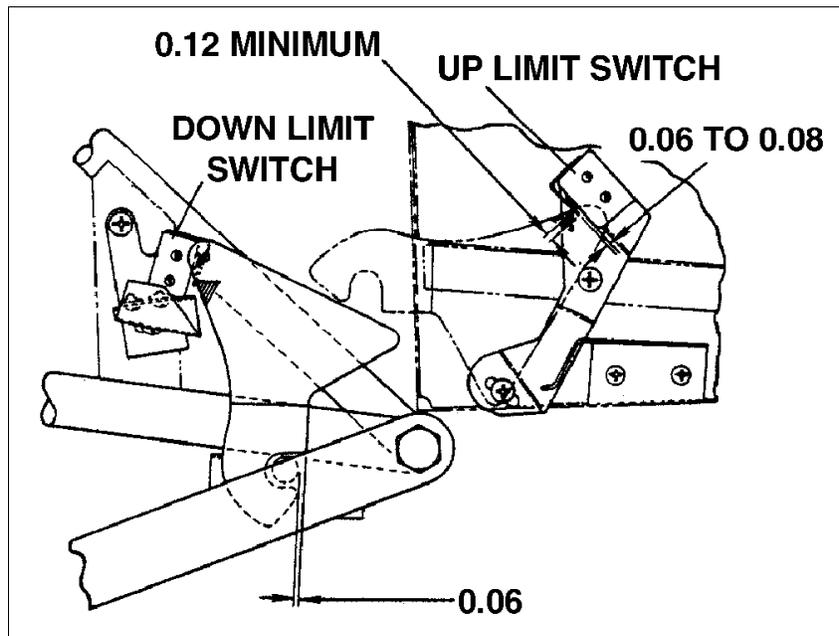

Figure 32-26. Adjustment of Nose Gear Limit Switches
The gear *up* limit switch is mounted on a bracket above the point where right side of upper drag link attaches to engine mount. (Refer to Figure 32-26.)
- f. Loosen lower attachment screw of switch bracket and rotate switch toward actuator tang until 0.06 to 0.08 inch measurement (noted in Figure 32-26) is obtained. Switch tang should be actuated a minimum of 0.12 inches in from lower end of tang.
- c. Down limit switch should actuate only after leading edge of down lock hook, when moving to locked position, has passed down lock roller by 0.06 of an inch. (Refer to Figure 32-26.) Position hook at this location in relation to roller by moving actuator piston manually toward up position. If necessary, disconnect down lock spring